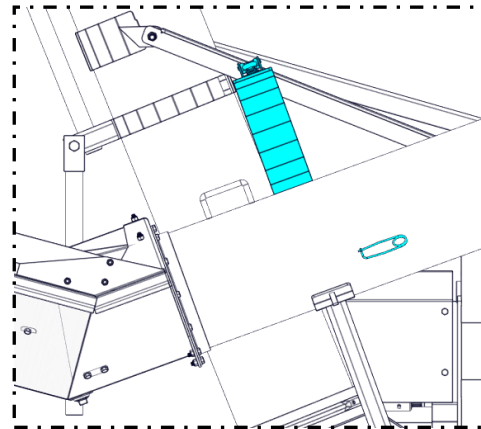

Figure 4.12
- B) Open the top section of the auger support band (Figure 4.12).